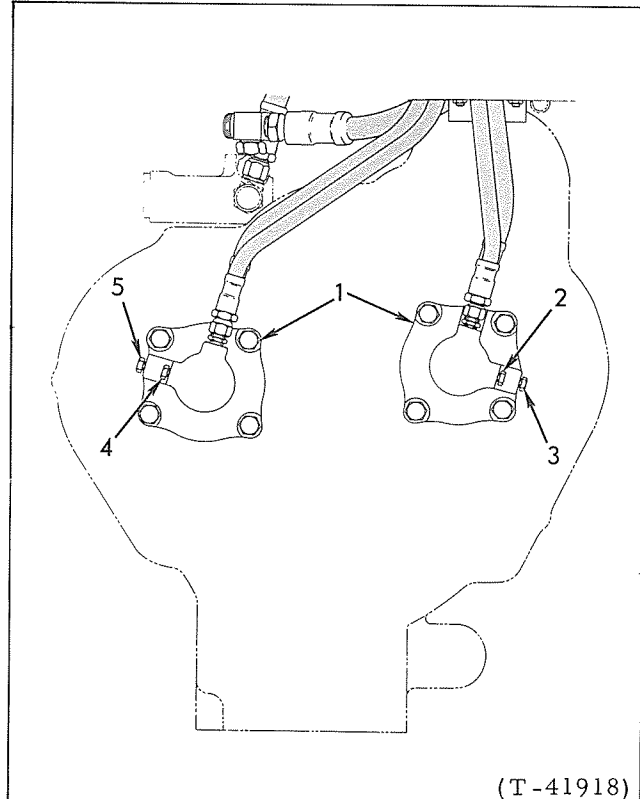

FIG. 9 TRANSMISSION PRESSURE CHECK POINTS
- a. Remove floor plates; install pressure gauges to check both clutches in one range, Fig. 9.